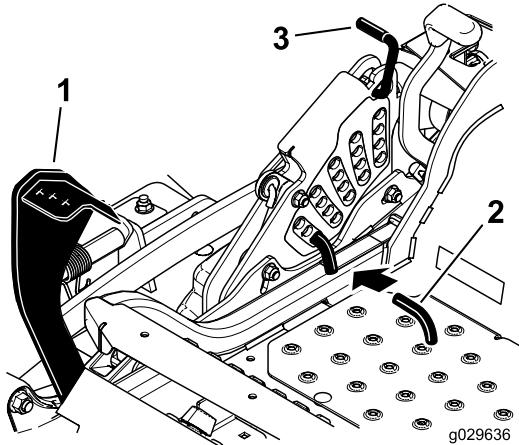

Figure 90
5. Push the deck lift pedal all the way forward and the deck will latch at the 14 cm (5-1/2 inch) transport position (Figure 90).